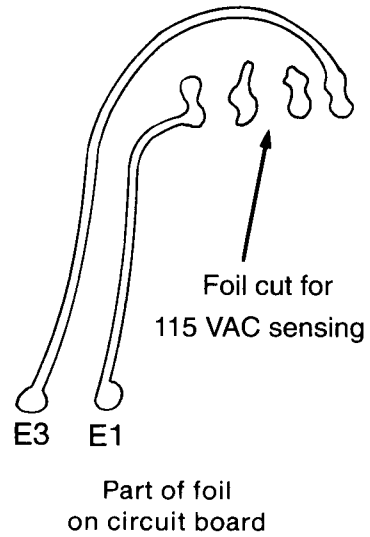

FIGURE 6-8 SENSING TRANSFORMER T1 CONNECTION FOR 115 VAC ± 15% SENSING
5. Verify correct sensing voltage. Standard KCR 160 voltage regulators utilize 225 VAC \pm 15% sensing internally connected as shown in Figure 6-7. Optional voltage is shown in Figure 6-8.